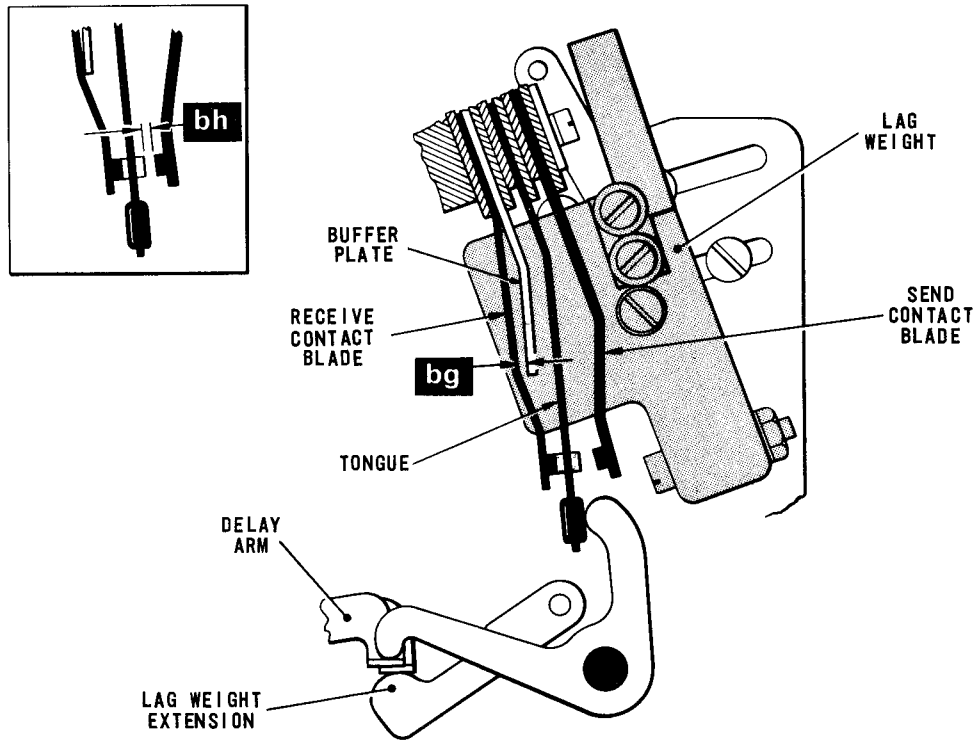

Fig. 4.62 SEND-RECEIVE SWITCH CONTACTS
- 78.1 With the machine in the rest position and the delay arm, Fig.4.62, fully restored by the crawler clutch and in contact with the lag weight extension, check that there is a clearance of approximately .010 in. (dimension 'bg') between the receive contact blade and its buffer plate.
79.1 With the machine in the rest position and the delay arm, Fig.4.62, in contact with the lag weight extension, trip the lag weight by depressing any key on the keyboard. Turn the machine by hand until the translator clutch has completed one revolution and check that the tongue is still touching the send contact blade.
- 80.4 Place a .025 in. clip (Creed Part No. TA1384) over the end of the tongue, Fig.4.62, and run out the letters code (MMMMM) for about 30 seconds. Check that a single trace appears at the beginning of the transmission and a second trace at the end. If no spurious traces appear, disconnect the TDMS from the send-receive switch.